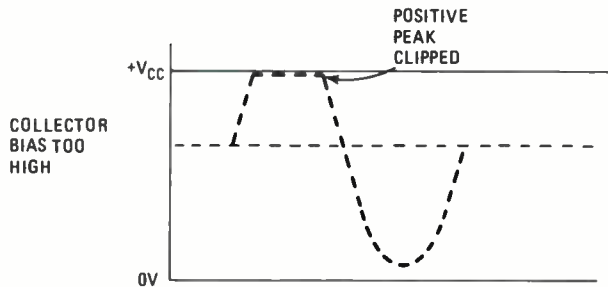

Fig. 21—Incorrect bias can cause distortion by clipping.
51. (7.5) If the bias is set so that the collector voltage is higher or lower than $V_{CC}/2$, then the linear output range will be reduced or limited. The output voltage will "bump up against" $+V_{CC}$ or ground, which causes the peaks of larger signals to be "flattened," or "clipped off." Figure 21 shows an example. The clipping is called *distortion*. With distortion, the output is no longer an enlarged replica of the input.